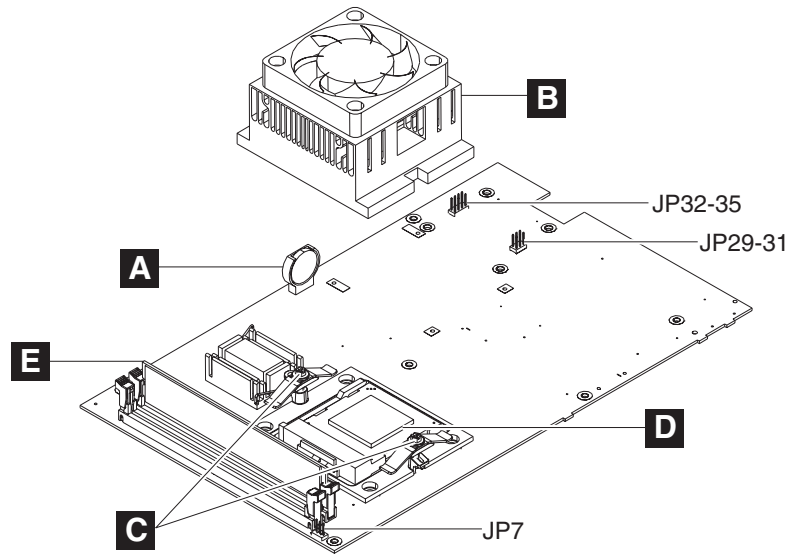

Figure 43. Dual video adapter jumper location
5. If no dual video adapter is installed, remove jumpers JP29 through JP35 to install a new adapter. See Figure 43 on page 63.